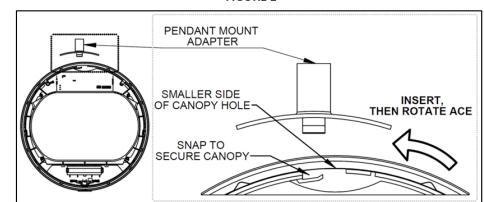

FIGURE 2
2. The Pendant mount kit has a female 3/8" – 18 NPS Straight Pipe thread in it. Ensure that the intended pendant mounting location has the appropriate mating hardware. Some configurations of the ACE can weigh up to seven (7) pounds. Ensure your mounting location is rated to support the weight of the ACE and attached conduit.
8. Insert the pendant mount adapter through the exposed canopy hole until the adapter makes contact with the unit. Lock the ACE onto the pendant mount adapter by rotating the smaller side of the canopy hole towards the pendant mount adapter. Rotate the ACE until the snap engages, preventing any motion out of the hole. (See Figure 2)